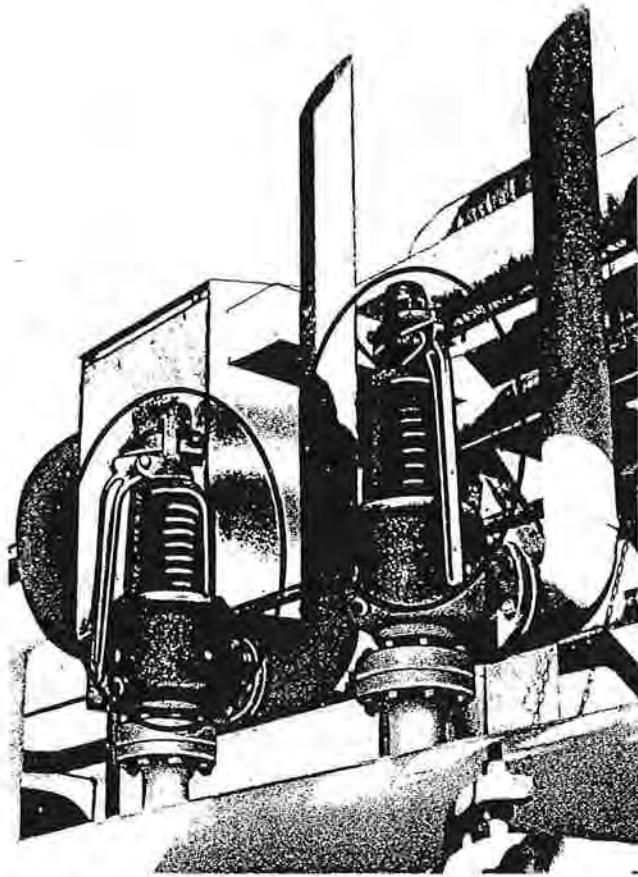

Fig. 8-10. Heavy-duty safety valves.
8.30 Normally, pop valves have drain holes on the discharge side to drain condensate. This is not true where the potential release of poisonous or inflammable gases is involved. Figure 8-10 shows a pair of large safety valves and their individual discharge pipes. From the sizes of these valves, and the rugged springs used to keep them closed under normal conditions, it is evident that they are used in a high-pressure system.